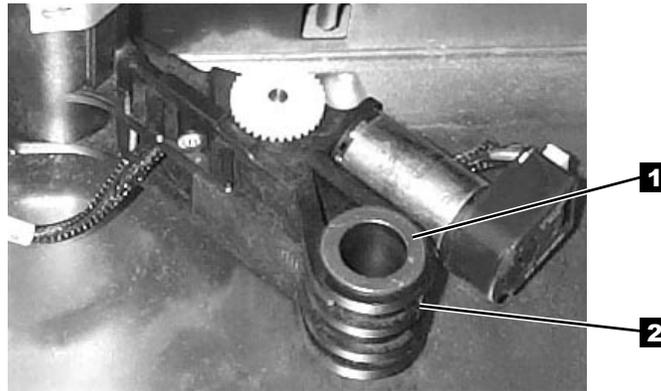

Figure 7-4. Flat Washer and Casting
**Note:** See Figure 7-4, there is another washer **1** between the Picker Assembly and the casting **2**. Do not lose this washer.